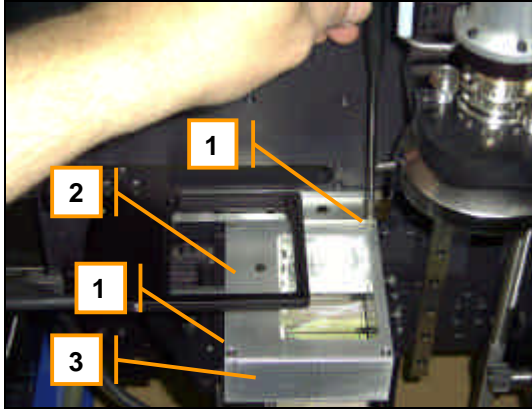

Figure 31: Removing the lighting cover
1. To change the part or board lighting halogen bulbs found on the standard optics train, follow the steps outlined in Figures 31 and 32, below.